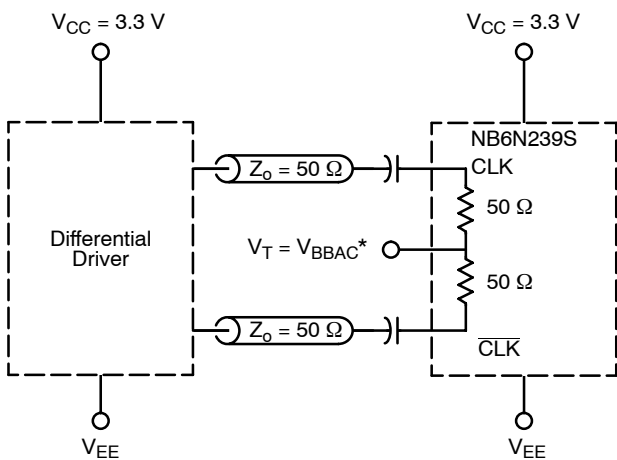

Figure 16. Capacitor-Coupled Differential Interface ( $V_T$  Connected to  $V_{BBAC}$ )
6.  $V_{BBAC}$  used to rebias capacitor-coupled inputs only (see Figures 16 and 17).